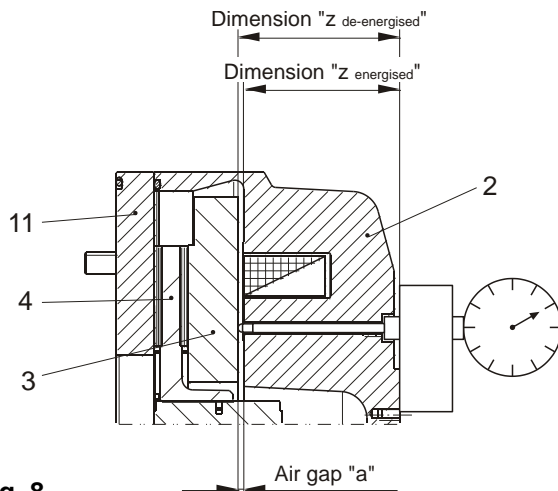

Fig. 8
ROBA-stop®-M brakes are mainly maintenance-free. However, the rotor (4) is subject to operational wear. The rotor (4) is robust and wear-resistant. This ensures a particularly long lifetime of the brake. If the rotor (4) does become worn due to the high total friction work, and the function of the brake can no longer be guaranteed, the brake can be re-set to its functional state by replacing the rotor. The quality of the counter friction surface must be checked. The wear condition of the rotor (4) can be determined by removing the cap screw (23) including the copper sealing ring (24) and then measuring dimension "z" (Fig. 8) once in energised and once in de-energised condition: